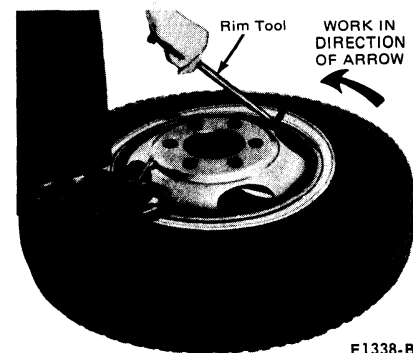

FIG. 6 Removing Split Ring
3. Insert the straight end of the rim tool into and under the notch in the ring (Fig. 6).